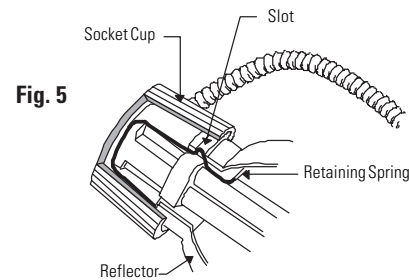

Fig. 5
B. SNAP-IN (FIG. 5)
Engage **Retaining Spring** into **Slots** in **Reflector** (see FIG. 5) following chart below. See Frame-in kit for lamp information.
NOTE: To remove **Reflector**, disengage the **Socket Cup** by depressing the **Retaining Spring** (FIG. 5). Turn **Reflector** counterclockwise while pulling downward. After starting, use both hands to remove, see FIG 7.
Engage Retaining Spring into Slots in Reflector (see FIG. 5) following chart below. See Frame-in kit for lamp information.
NOTE: To remove **Reflector**, lift **Lens** and pull **Lens Trim** down (FIG. 12). Disengage the **Socket Cup** by depressing the **Retaining Spring** (FIG. 5). Turn **Reflector** counterclockwise while pulling downward. After starting, use both hands to remove (FIG. 7)
- NOTE: To remove **Reflector**, disengage the **Socket Cup** by depressing the **Retaining Spring** (FIG. 5). Turn **Reflector** counterclockwise while pulling downward. After starting, use both hands to remove, see FIG 7.